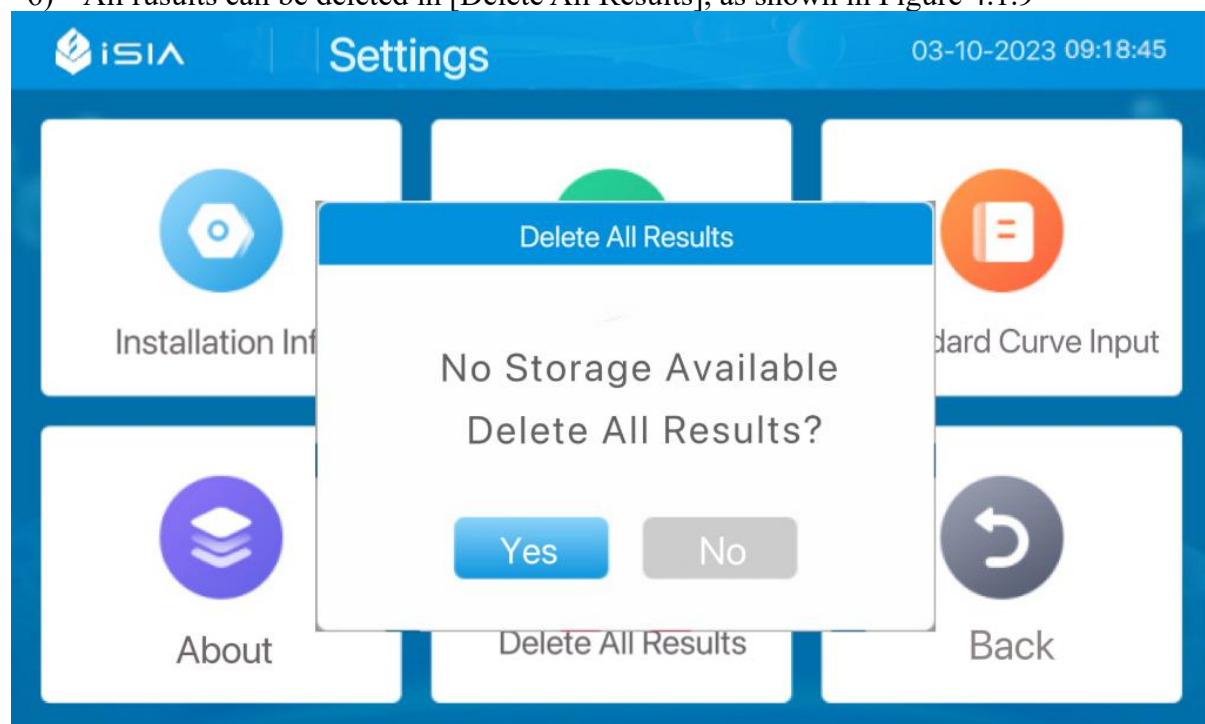

Figure 4.1.9
6) All results can be deleted in [Delete All Results], as shown in Figure 4.1.9